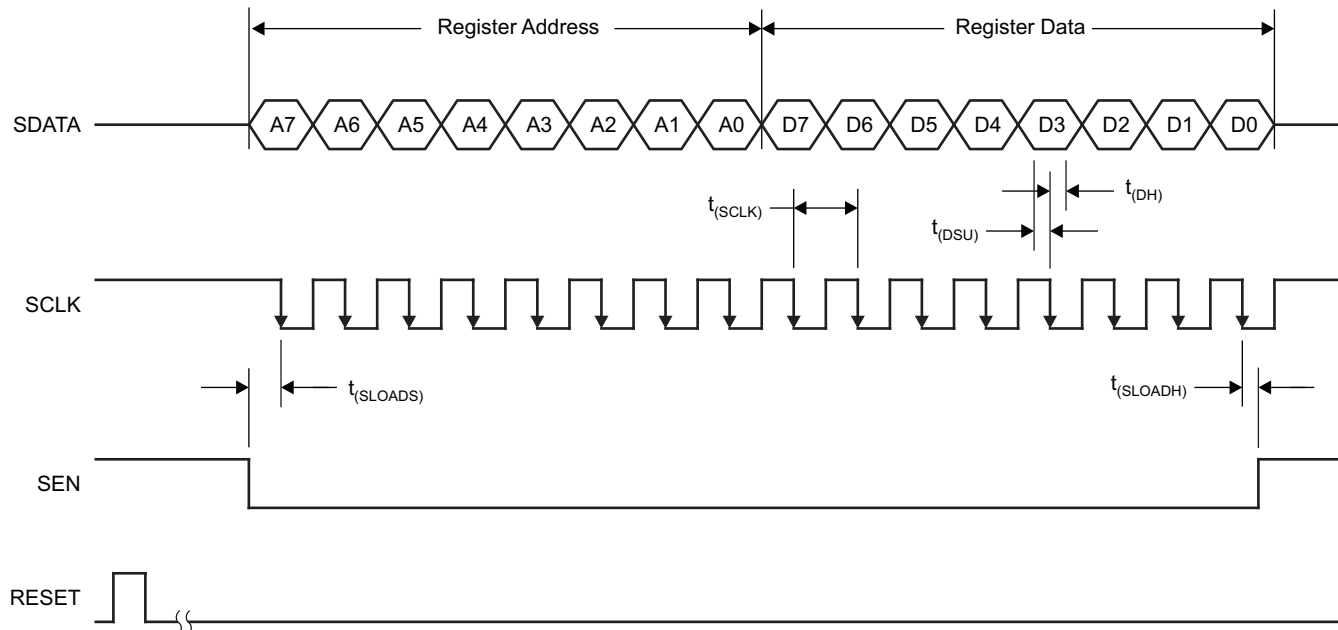

Figure 58. Serial Interface Timing Diagram
1. A hardware reset by applying a high-going pulse on the RESET pin (of width greater than 10 ns) as shown in Figure 58.